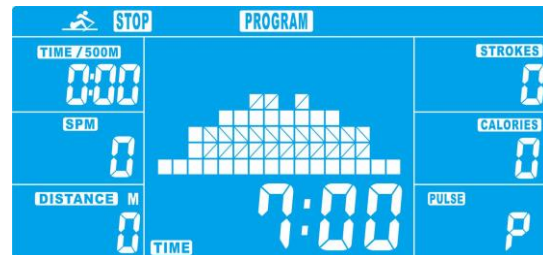

Fig. 5
- c. Press UP and DOWN to set the TIME (Fig. 5) and press ENTER to confirm.